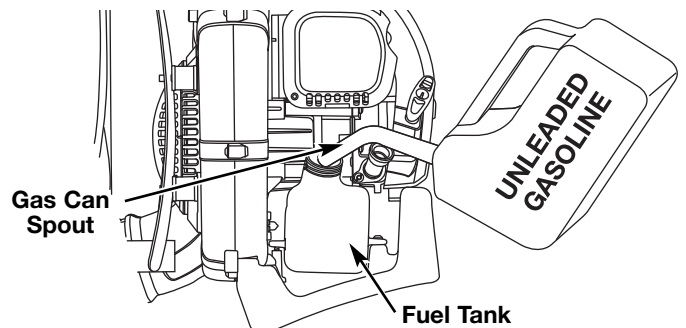

Fig. 14
2. Place the gas container's spout into the fill hole on the fuel tank (Fig. 14) and fill the tank.